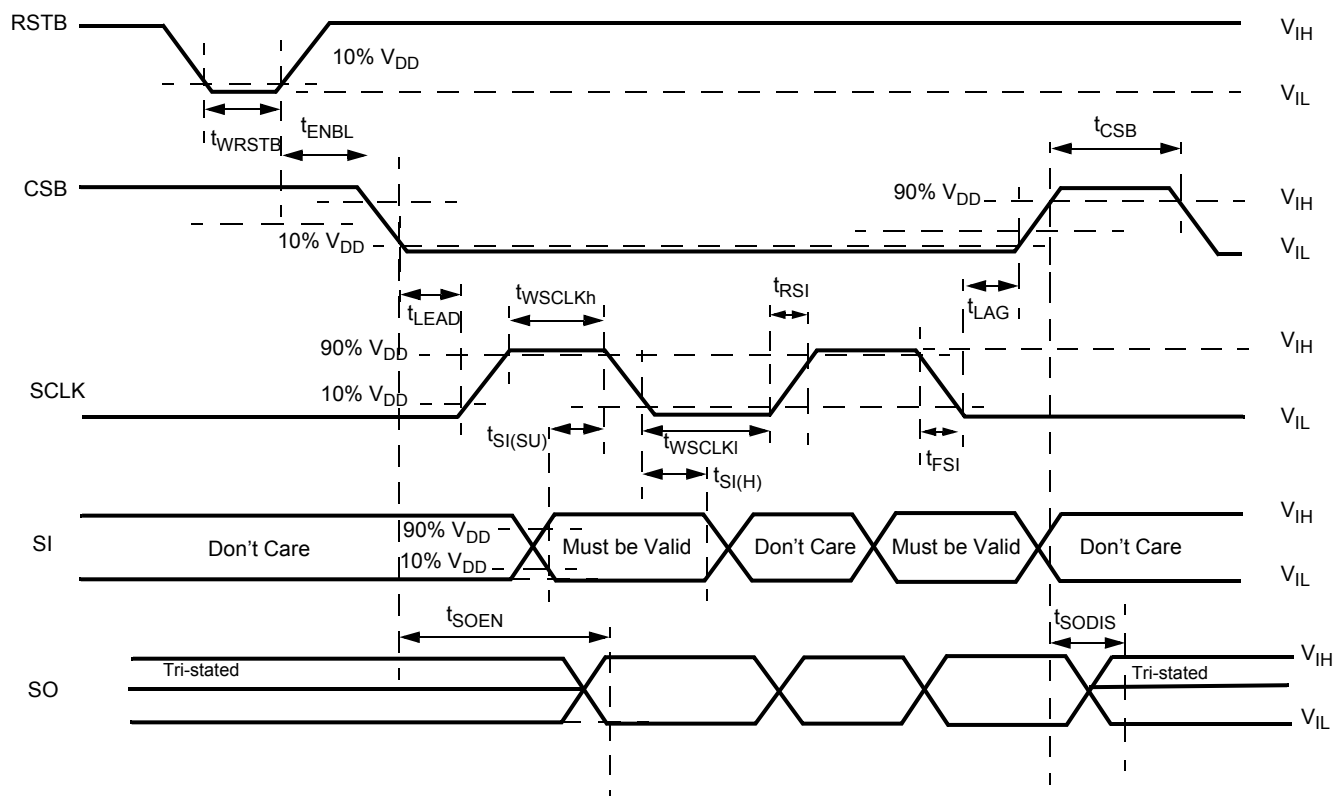
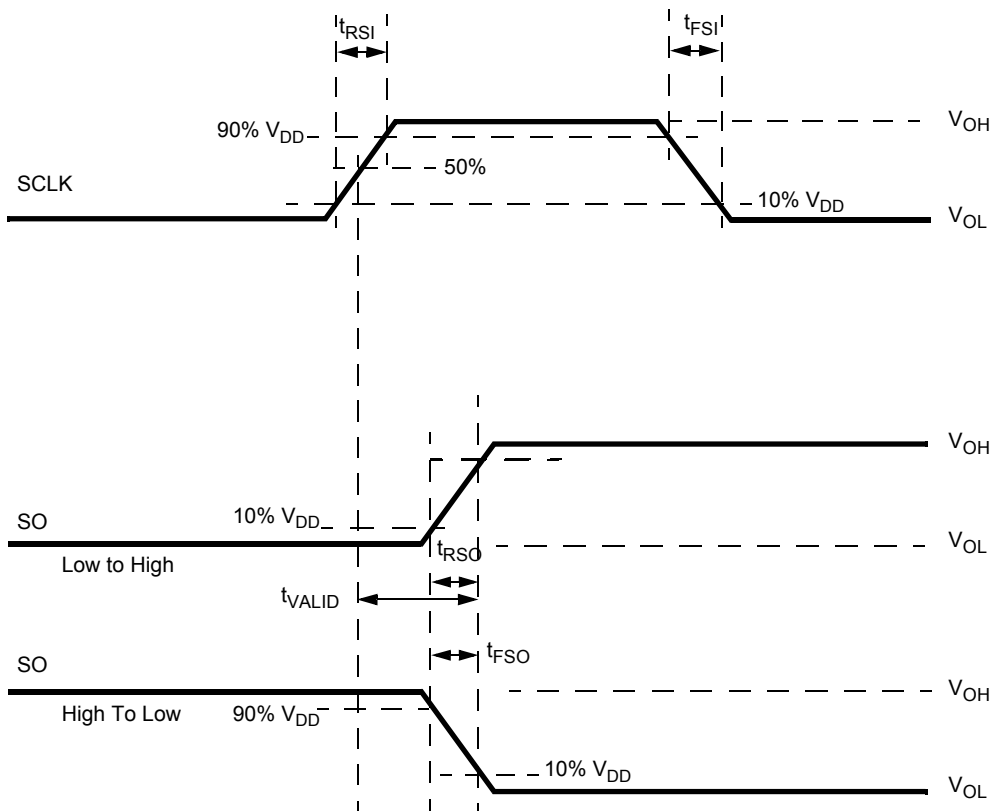

Figure 7. Timing Requirements During SPI Communication
Figure 8. Timing Diagram for Serial Output (SO) Data Communication
edge of CSB. The SO output driver is enabled when CSB is logic [0]. CSB should transition from a logic [1] to a logic [0] state only when SCLK is at logic [0] (Figure 7 and Figure 8). CSB is internally pulled up to  $V_{DD}$  through  $I_{UP}$ .
Serial input (SI) data bits are shifted in at this pin. SI data is read on the falling edge of SCLK. 16-bit data packages are required on the SI pin (see Figure 7), starting with bit D15 (MSB) and ending with D0 (LSB). All the internal device registers are addressed and controlled by a 4-bit address (D9-D12) described in Table 11. Register addresses and function attribution are described in Table 12. The SI pin is internally connected to a pull-down current source,  $I_{DWN}$ .